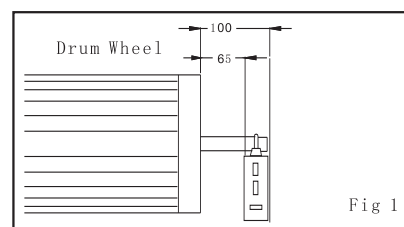
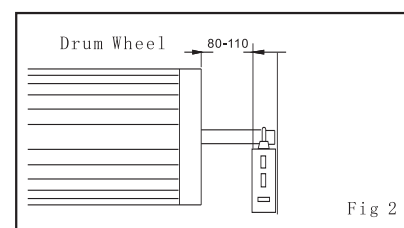

Fig 1
Fig 2
Minimum side room of 65mm from the face of the door drum wheel to the inside edge of the door support bracket and 100mm to the outside are required to install the opener (see **Fig 1**). The ideal side room space to fit the opener is respectively of 80mm and 110mm as shown in **Fig 2**.
- Select Left or Right hand installation (from inside looking out) by checking Dip Switch No. 1. (On for Right Hand; Off for Left Hand, see **Figure 1**).
2.3 Setting Top Limit: find the Limit Setting Shaft that is directly under the Green Limit Setting Lamp (see **Figure 2**), push inwards gently and